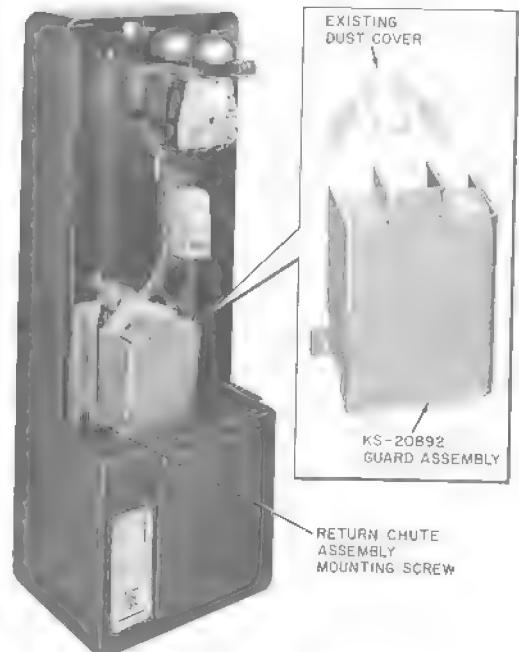

Fig. 29—Relay Antidrift Guard Arrangement
2.39 A special case-hardened steel antidrill guard assembly (KS-20892) is available to prevent fraudulent operation of coin relay in single slot coin telephone sets (Fig. 29). The guard assembly must be ordered separately.
2.41 Secure the antidrill guard assembly to the set using the existing return chute assembly mounting screw (Fig. 29).